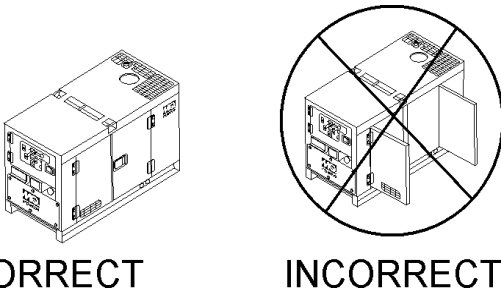

Figure 41. Engine Enclosure Doors
4. Close all engine enclosure doors (Figure 41).